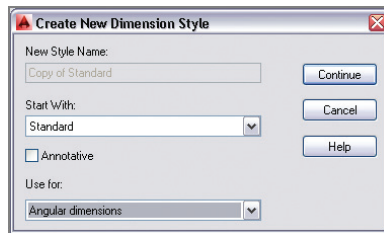

FIGURE 11.7 Creating a dimension sub-style for angular dimensions
7. Type **D** (for Dimension Style), and press Enter. The Dimension Style Manager reappears. Click the New button to open the Create New Dimension Style dialog box. Verify that Start With is set to Standard. Choose Angular Dimensions from the Use For drop-down (see Figure 11.7). Click Continue.